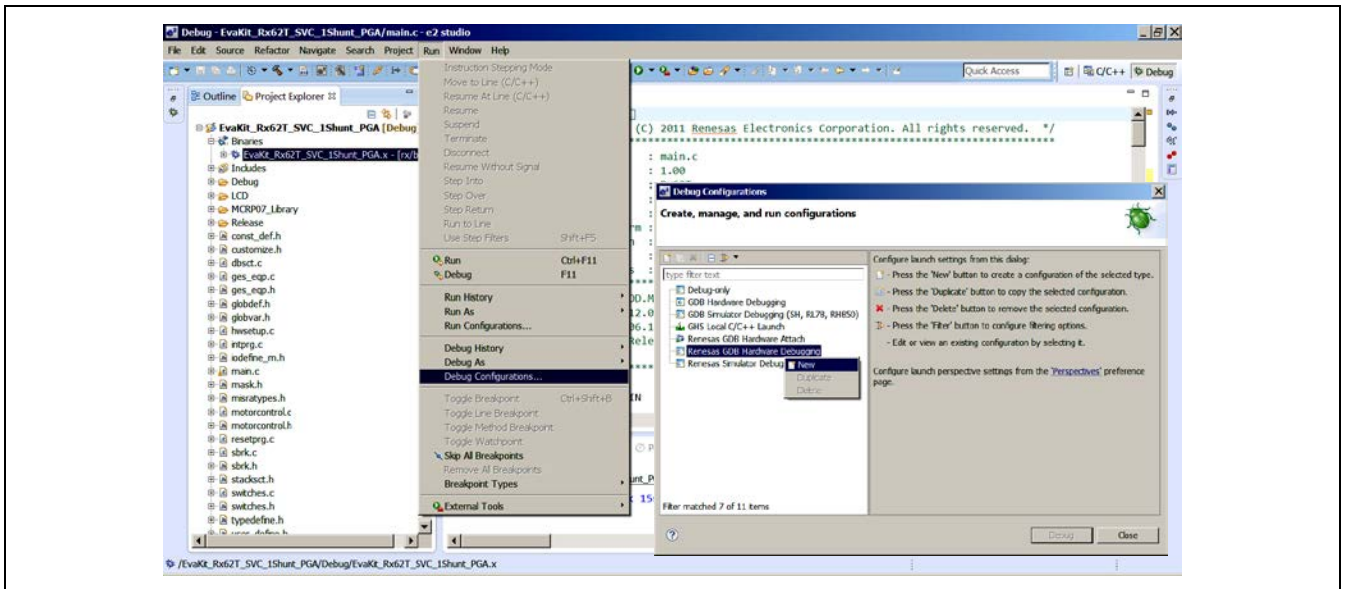

Figure 19 Setup Debug Configuration in Workspace
Now, the user will view the “Debug Configurations” Windows dialog box, as shown in Figure 19.
Step 2. Select “Renesas GDB Hardware Debugging”. Using the mouse, right click on “Renesas GDB Hardware Debugging” and select “New” as shown in Figure 19.